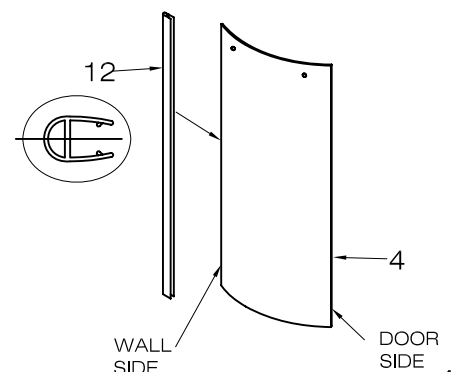

FIG. 3
3. Place the seal strip (12) from the wall side of the fixed panel (4). See FIG.3.